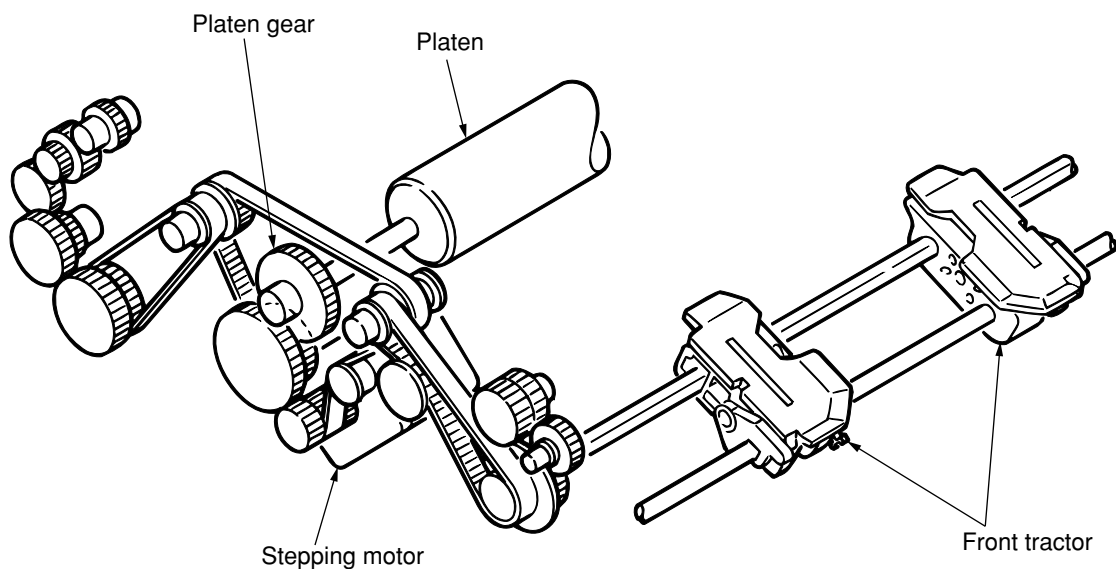

Figure 12-8. Continuous-Form Driving Mechanism (Front Tractor)
12.3.5 Paper Feed Mechanism (See Figures 12-8, 12-9, and 12-10.)